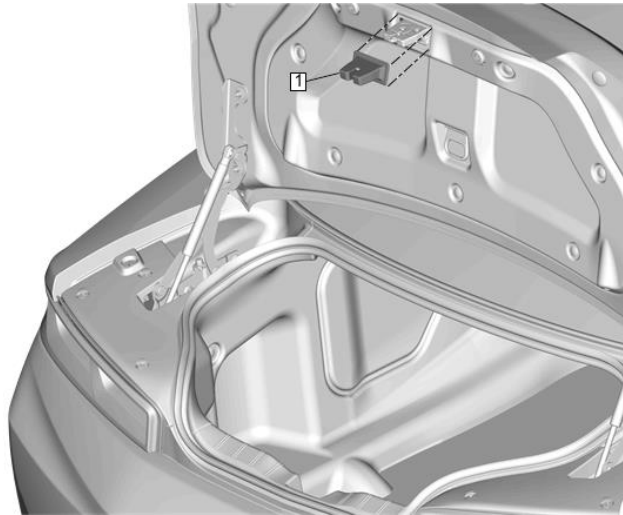

Figure 2: Rear Compartment Lid Latch Cover Replacement
2. Remove Rear Compartment Lid Latch Cover (Figure 2).
- a. Use a small flat-bladed tool to pull and release the rear compartment latch cover. (Figure 2 callout 1).
9. Reinstall Rear Compartment Lid Latch Cover (Figure 2).